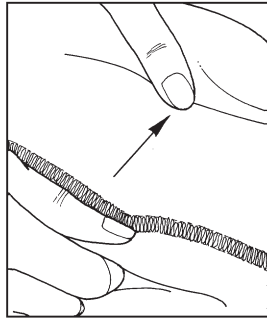

Fig. 24-8
5. Open the hem and pull the stitching flat. Press the hemline to set the stitches. (Fig. 24-8)